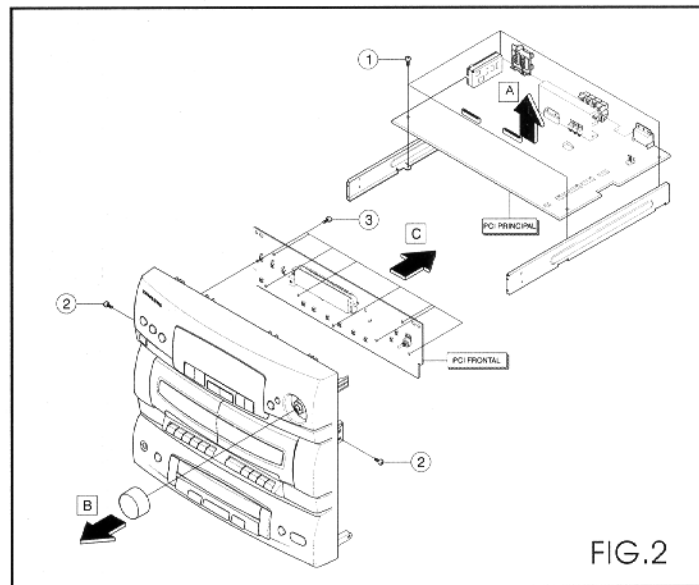

FIG.2
2. PCI'S FRONTAL/PRINCIPAL (FIG. 2)